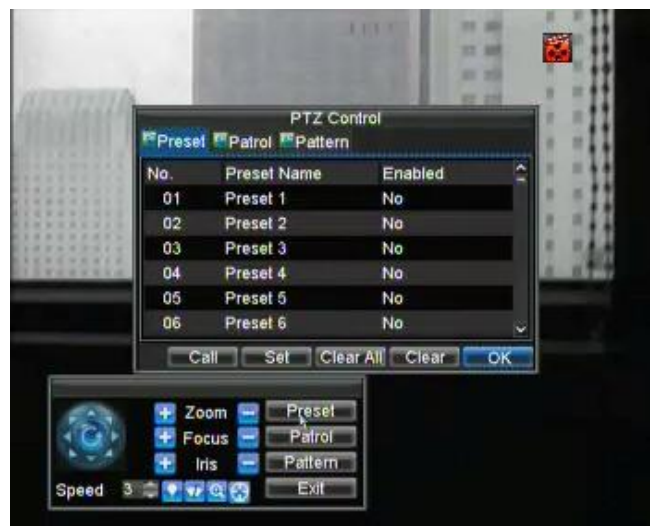

Figure 4. Preset Management Menu
3. In the Preset Management menu, shown in Figure 4, you may: